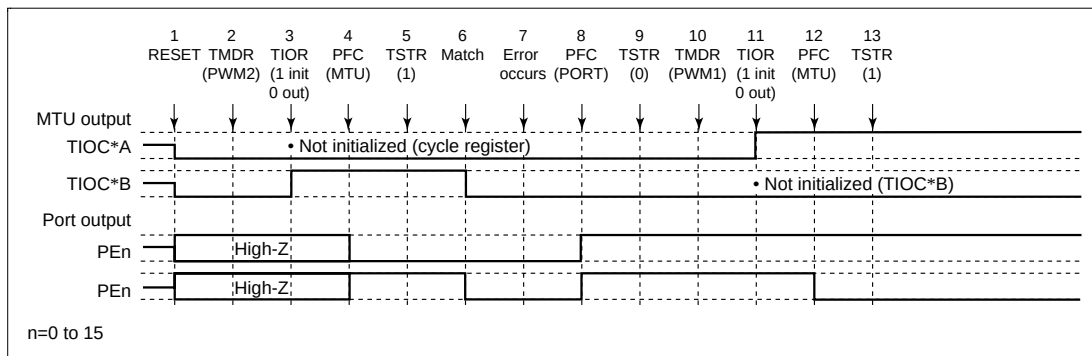

**Figure 12.109 Error Occurrence in PWM Mode 2, Recovery in PWM Mode 1**
**(14) Operation when Error Occurs during PWM Mode 2 Operation, and Operation is Restarted in PWM Mode 1:** Figure 12.109 shows an explanatory diagram of the case where an error occurs in PWM mode 2 and operation is restarted in PWM mode 1 after re-setting.